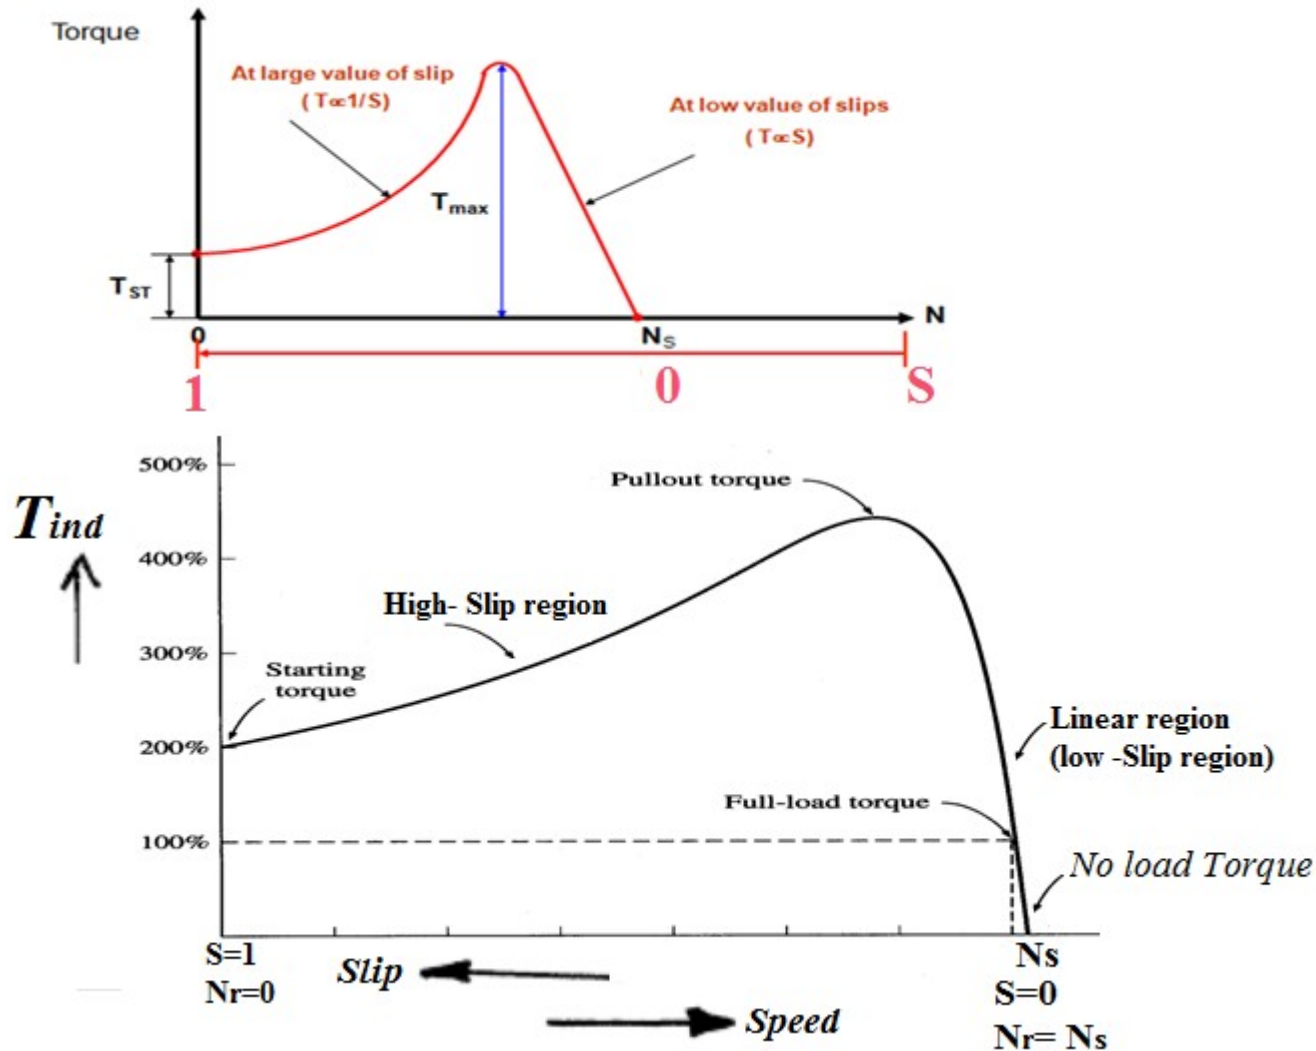

Figure 3.12 Torque-Speed characteristics of induction motor
- ✓ It is easier to show the relationship in the form of a curve (figure 3-12).